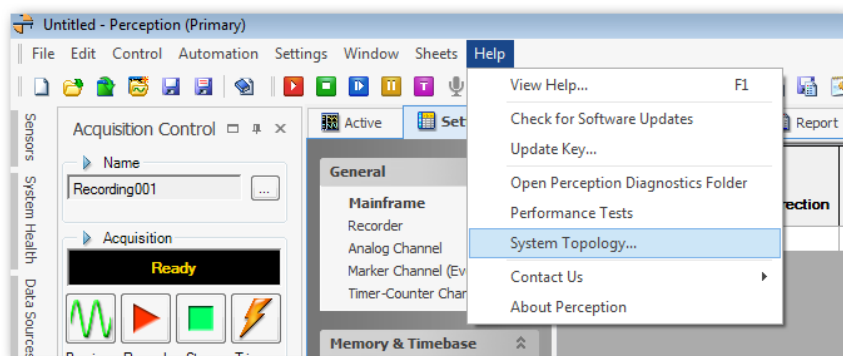

Figure 14.45: System Topology Help
- 1 In the menu bar choose **Help ► System Topology** (see Figure 14.45).